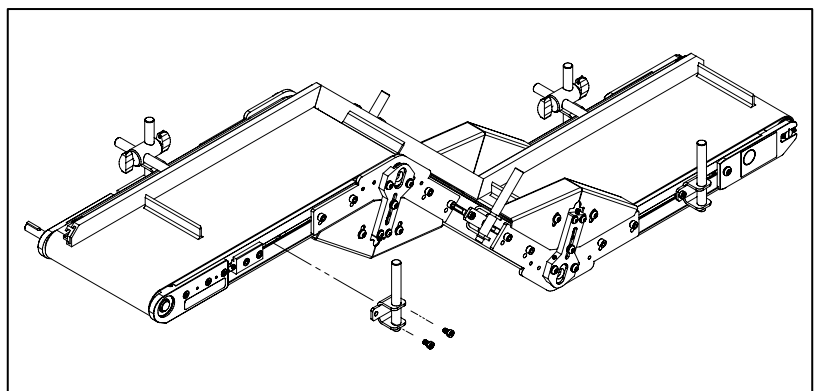

Figure 2
b. Remove the guide brackets from the conveyor frame by unscrewing the M6 screws (**Figure 2**).